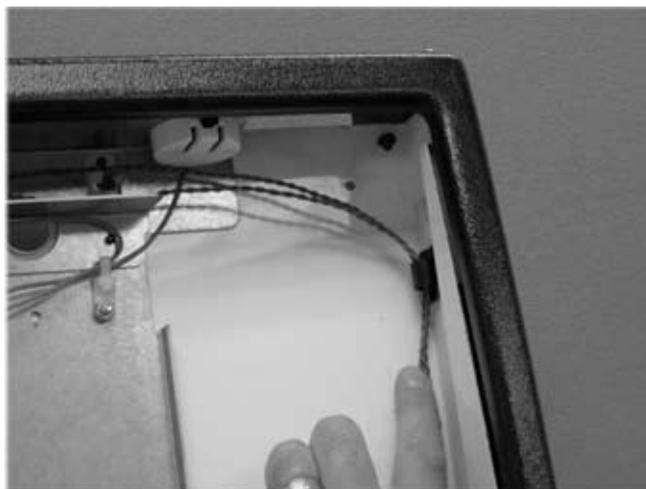

Figure 66.
- V. Re-attach wire pairs to their clips in right side-corner (Figure 66) and the right side-center of merchandiser.